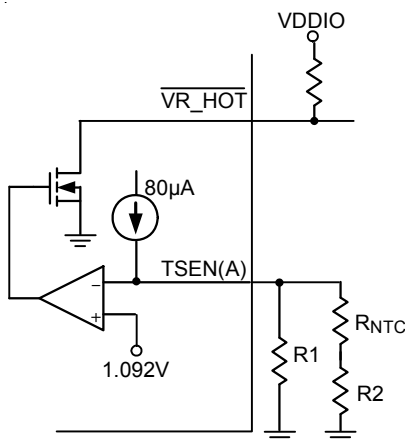

Figure 8. $\overline{VR_HOT}$ Circuit
The $\overline{VR_HOT}$ signal is an open-drain signal which is used for VR thermal protection. When the sensed voltage in TSEN(A) pin is less than 1.092, the $\overline{VR_HOT}$ signal will be pulled-low to notify CPU that the thermal protection needs to work. According to Intel VR definition, $\overline{VR_HOT}$ signal needs acting if VR power chain temperature exceeds 100°C. Placing an NTC thermistor at the hottest area in the VR power chain and its connection is shown in Figure 8, to design the voltage divider elements (R1, R2 and NTC) so that $V_{TSEN(A)} = 1.092V$ at 100°C. The resistance error of TSEN network is recommended to be 1% or smaller.